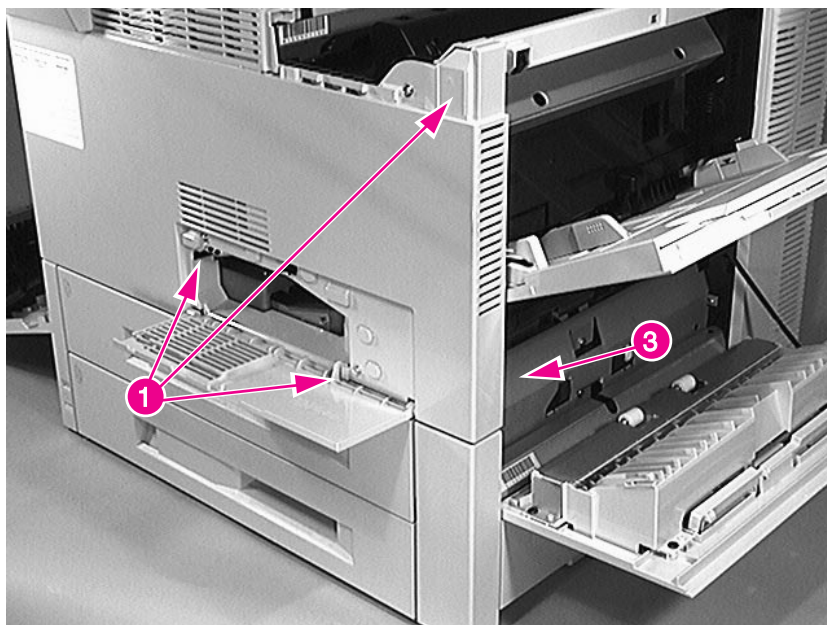

Figure 6-7 Front Cover (1 of 2)
- 2 Open the front access door, and remove 3 screws (figure 6-7, callout 1).
- 4** Carefully pull the bottom of the cover away from the chassis while moving it to the right to release the retaining tab (figure 6-7, callout 3).
- Front Cover (see figure 6-7 on page 168)